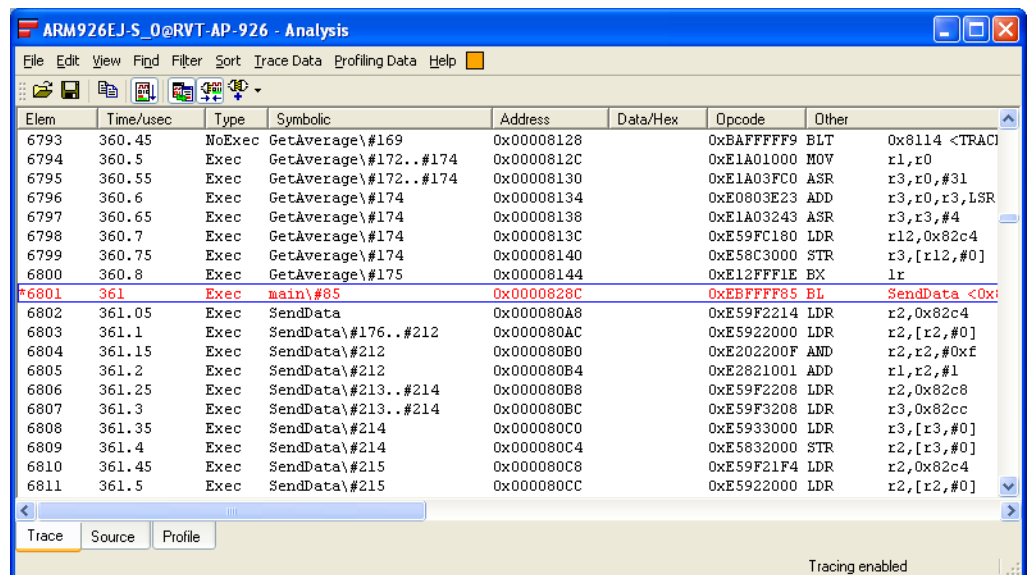

Figure 10-70 Captured trace before the trigger point
6. Scroll down the trace output to see the captured trace after the trigger point. Figure 10-70 shows an example: